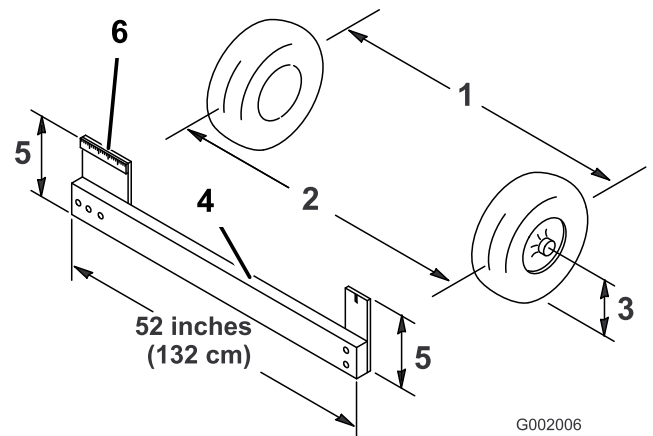

Figure 58
4. Measure the distance between both of the front tires at the axle height at both the front and rear of the front tires (Figure 58). A fixture or alignment gauge is needed for the rear measurement of the front tires at axle height. Use the same fixture or alignment gauge to accurately measure the front of the front tires at axle height (Figure 58).